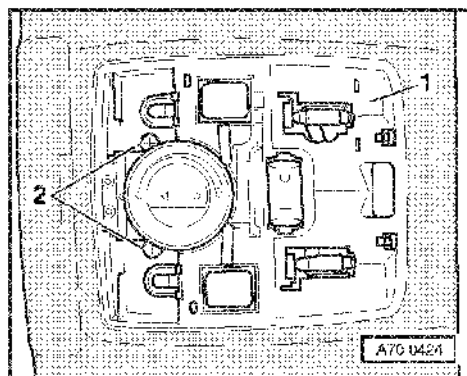

Fig.1 Removing and installing cover for moulded headliner cut-out
- Remove cover for moulded headlining cut-out and reading lamp => Fig. 1